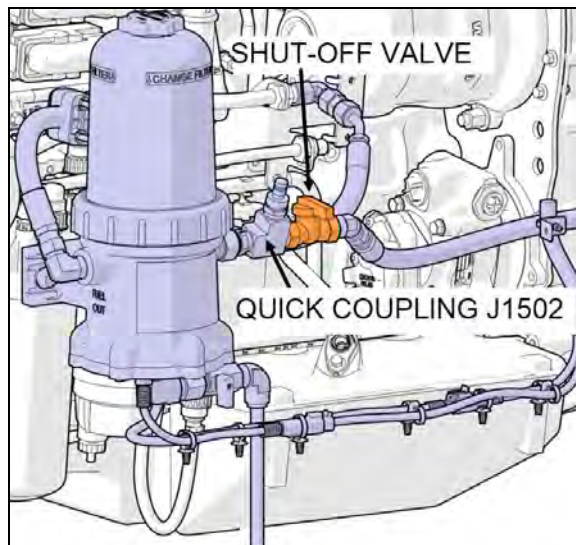
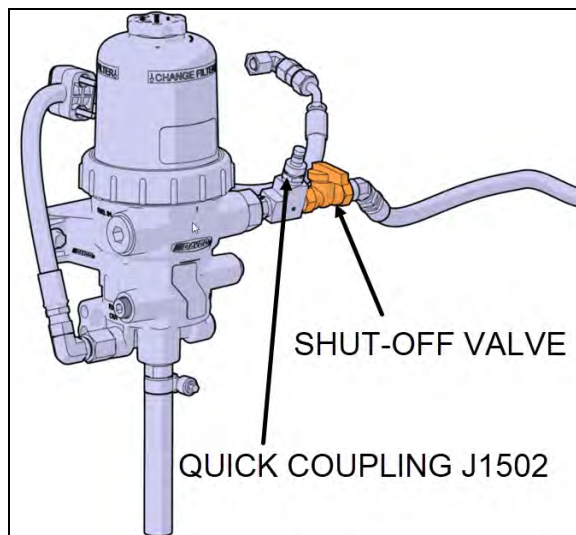

FIGURE 5: DAVCO FUEL PRO 382 WITH MANUAL SHUT-OFF VALVE
FIGURE 6: DAVCO FUEL PRO 386 WITH MANUAL SHUT-OFF VALVE
The Fuel Pro 382 (Figure 5) and Fuel Pro 386 (Figure 6) fuel processor is installed between the fuel tank and the secondary fuel filter and is used as the primary fuel filter. This system also serves as a water separator and is equipped with heating for winter conditions. Davco Technical Manual F1387 is available on Prevest technical Publications site.
2. Close the shut-off valve on the “fuel in” side of the fuel filter (Figure 5).
3. Remove the vent cap & vent cap O-ring (B) and open the drain valve (I) at the base of the Fuel Pro body and drain the fuel until it is below the collar (A) level.
5. Untighten the collar (A), remove clear cover, filter spring (F), filter element and cover O-ring (E).